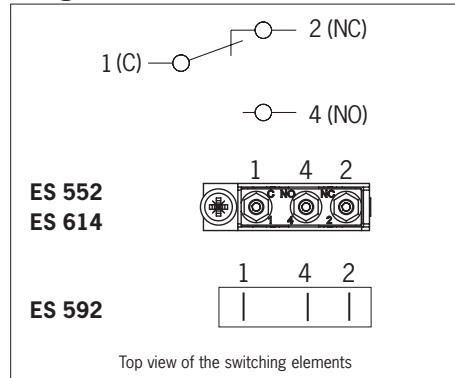

Fig. 1: Switching elements and terminal assignment
- ▶ For terminal assignment, see Fig. 1